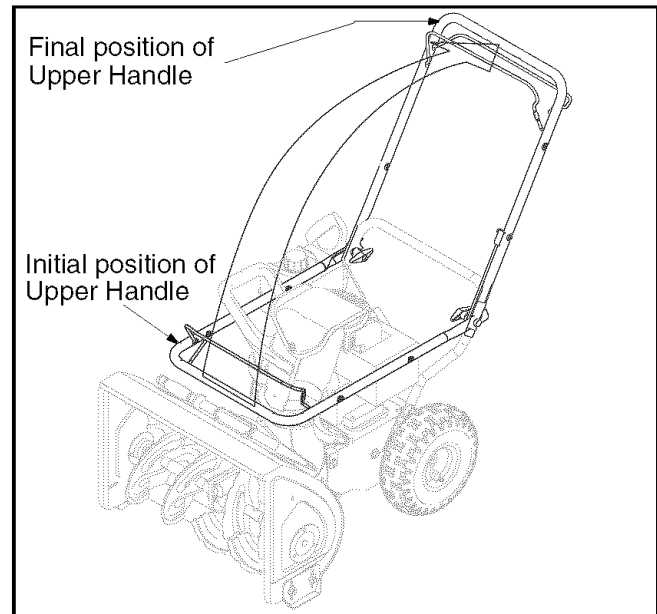

Figure 3
3. Hold both controls against the upper handle and pull up as shown in Figure 3. Make sure that the upper handle locks over the lower handle and the handle tabs align with the handle. You may have to carefully maneuver the upper handle to clear the chute assembly.